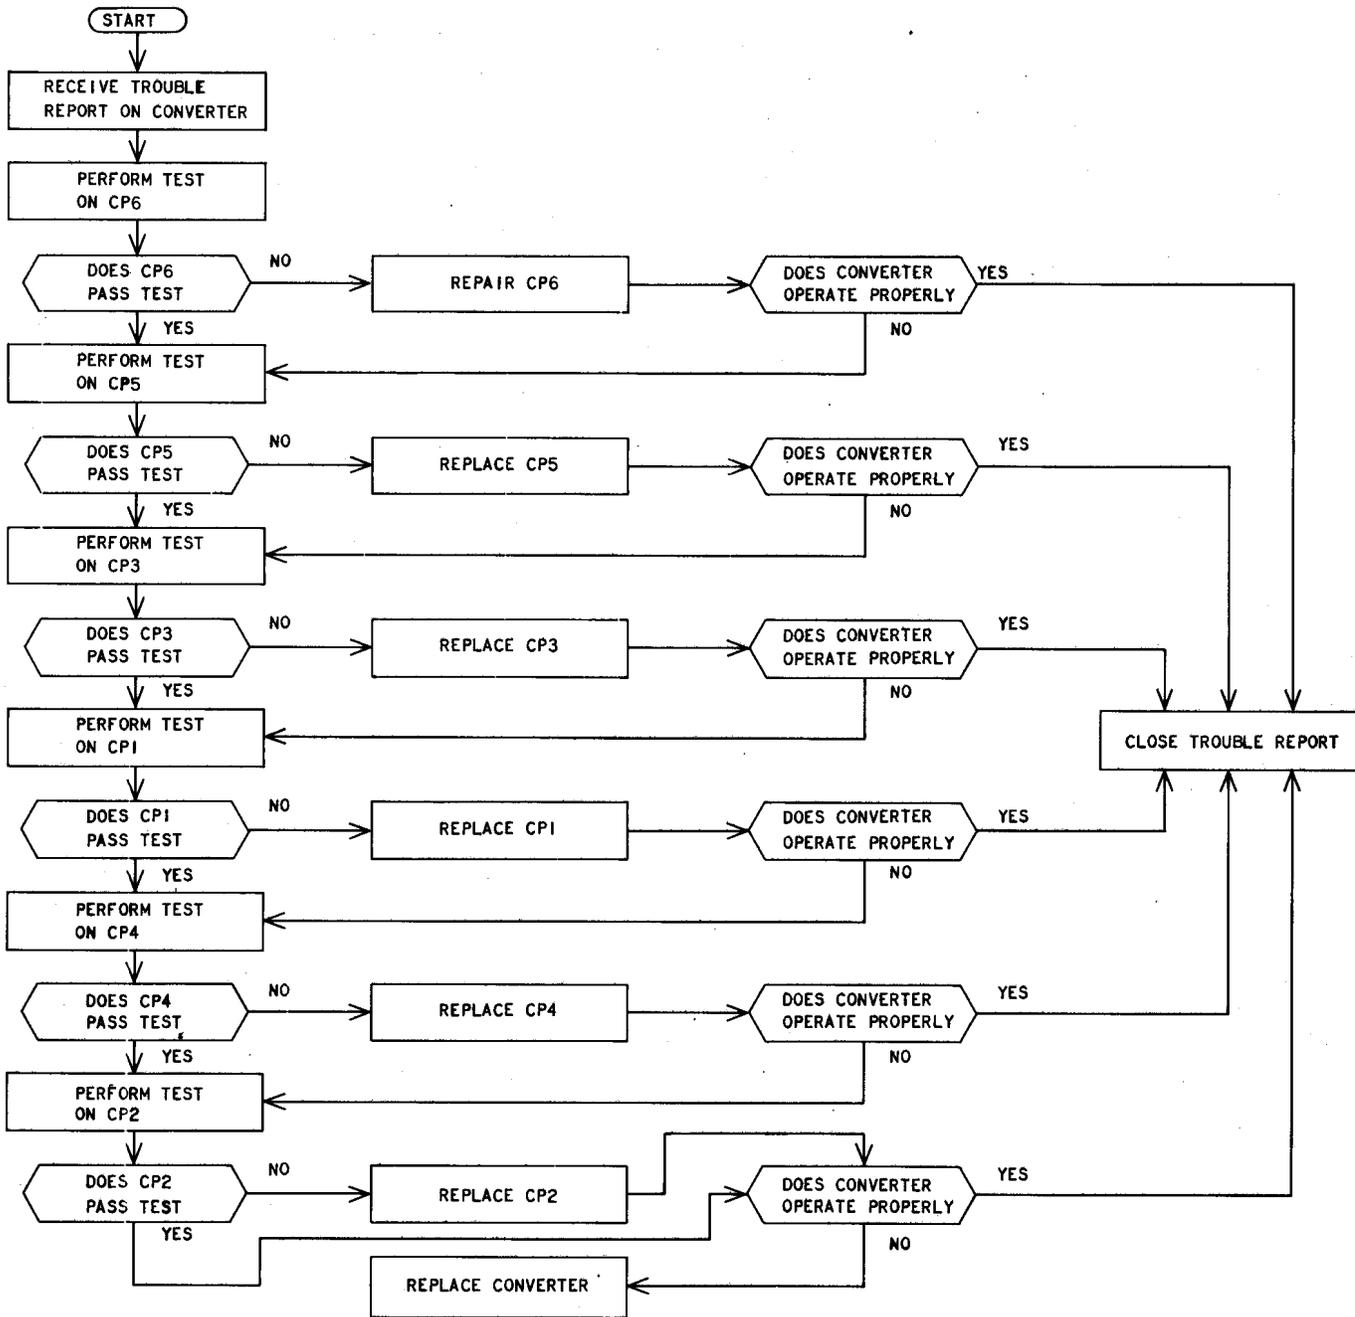

Fig. 1—Procedure for Trouble Clearing 918B Multispeed and Code Converter
**2.03** When investigating a trouble report, proceed as directed on Fig. 1. Refer to the section entitled 918B Multispeed and Code Converter—Test Procedures (103-814-501) for test procedures applicable to the converter.